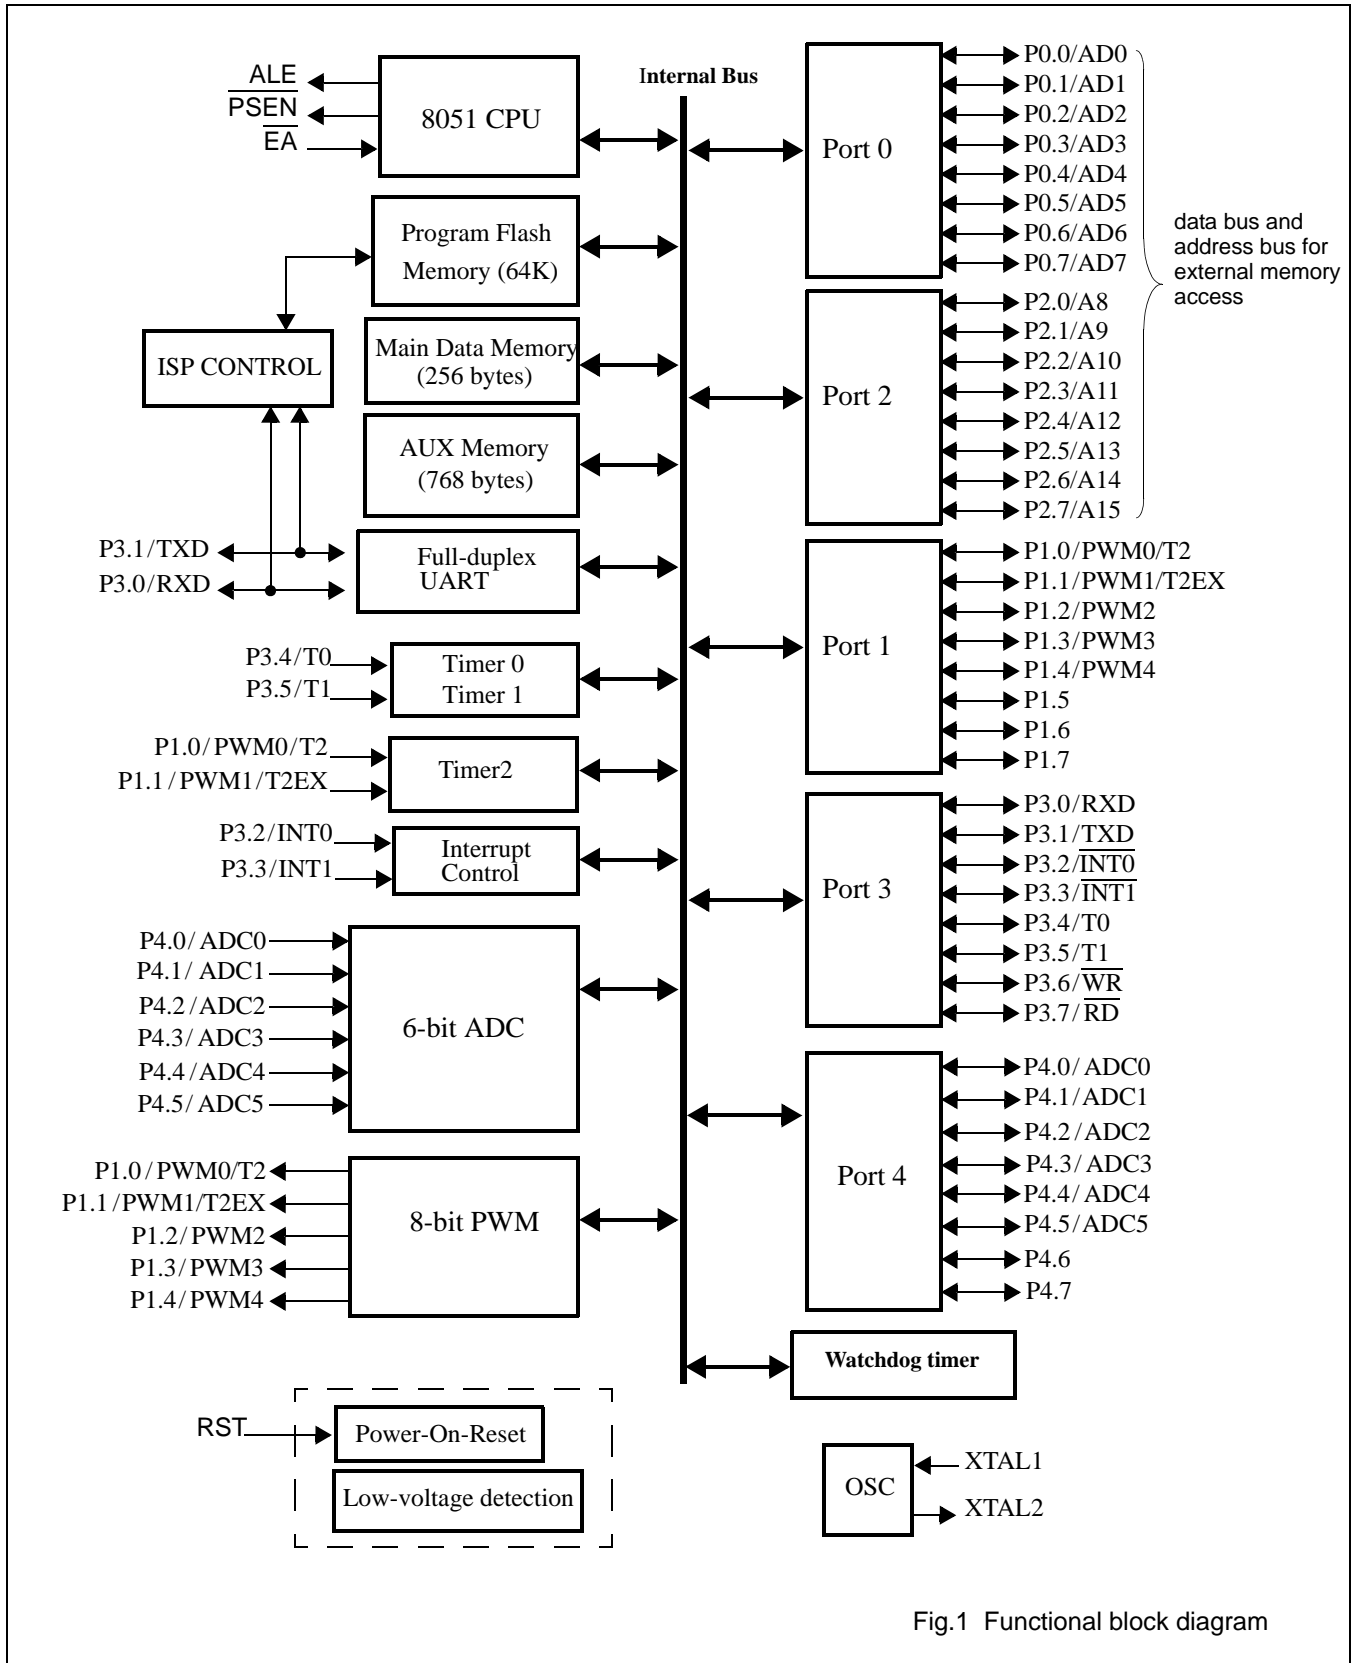

Fig.1 Functional block diagram
- Fig. 1** Functional block diagram...Page 11